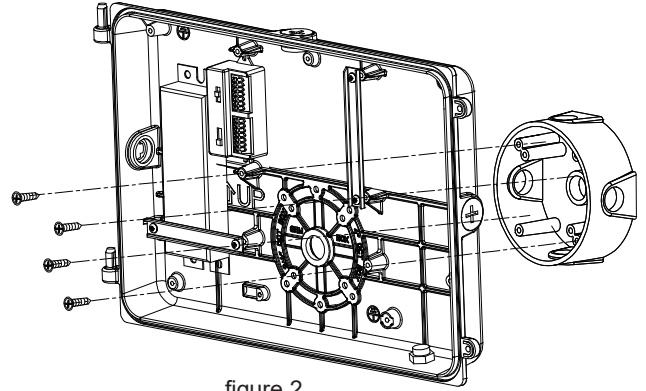

figure 2
Step 2 Fix the rear housing on the wall. (figure 2)